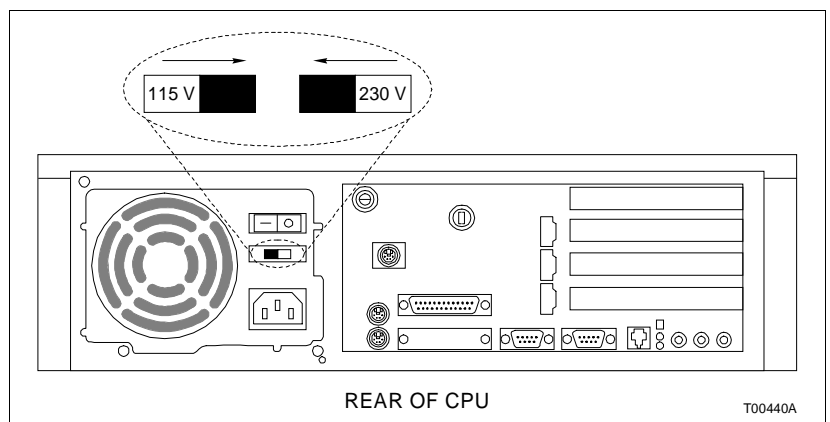
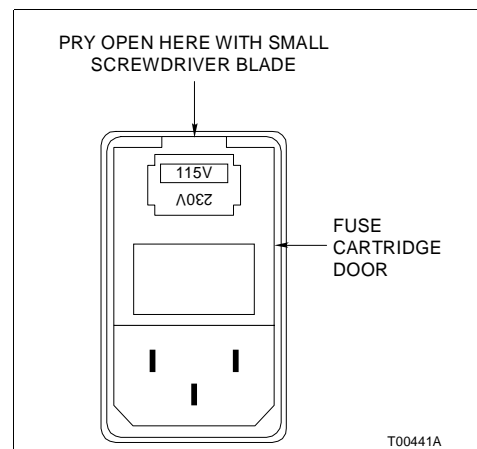

Figure PR25-3. IS43XM, IS43XT and IS43XX Work Station CPU
Figure PR25-4. Lifting Mechanism Power Input Module
-  7. Verify that the voltage switch setting on the rear of the CPU for IS43XM, IS43XT and IS43XX work stations (Fig. PR25-3) and the power input module for the lifting mechanism (Fig. PR25-4) on all work stations (if supplied) are set to the proper input voltage level.